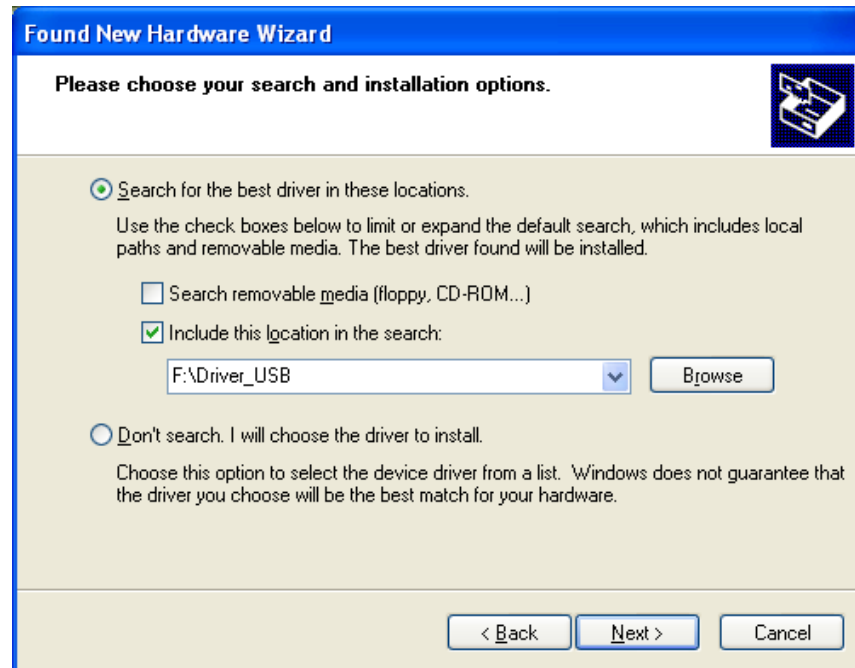

Figure 7. New Hardware Wizard, Step 3
3. When the window shown in Figure 7 is displayed, click Browse, select the location of the downloaded driver file on the PC, and then click Next.